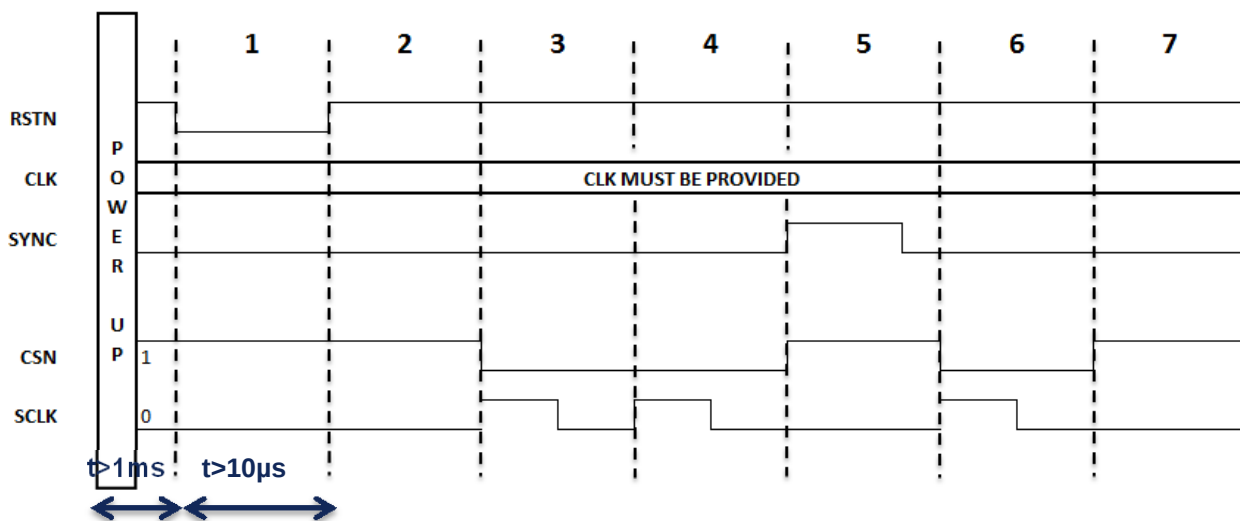

Figure 11: Start-up sequence when using the SPI interface
Figure 11 presents the reset and synchronization to realize after power-up when the SPI interface is used (see section Serial Peripheral Interface for more information on the SPI interface).
5. A pulse is applied onto the SYNC input to reset the internal clocks (SYNC signal in Figure 11). At this stage the bit 7 of register CHIP_CTRL must be at '0' (trigger mode disabled) – see section SYNCTRIG input;